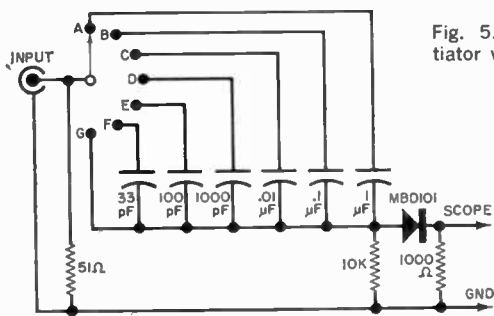

Fig. 5. The spiker is essentially a differentiator whose series capacitor can be selected.
**Spiker.** If you need a sharp spike signal of known frequency, use the circuit shown in Fig. 5 to develop the required signal. The input impedance is 50 ohms; the output is 1000 ohms. The switch is used to select the proper capacitor for each group of frequencies.